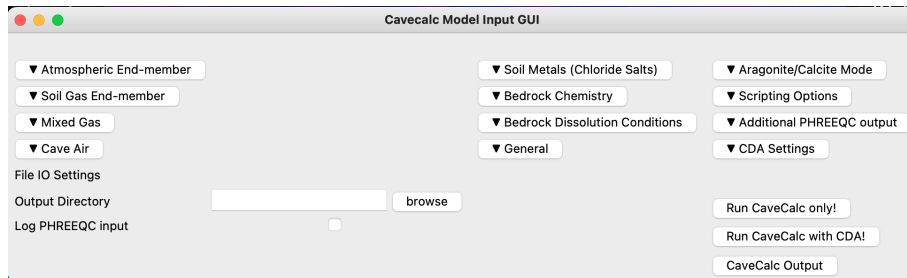

Figure 1: CaveCalcV2.0 GUI. Inputs are grouped under drop-down headings for ease of navigation.
- The GUI should look something like Figure 1.
- In the bottom left of the GUI (Figure 1), you are able to chose an output directory
In the GUI, users can define the precipitate mineralogy through the drop-down heading Aragonite/Calcite Mode (Fig. 1). This option allows the user to write ‘Calcite’ or ‘Aragonite’ as the precipitating mineral.